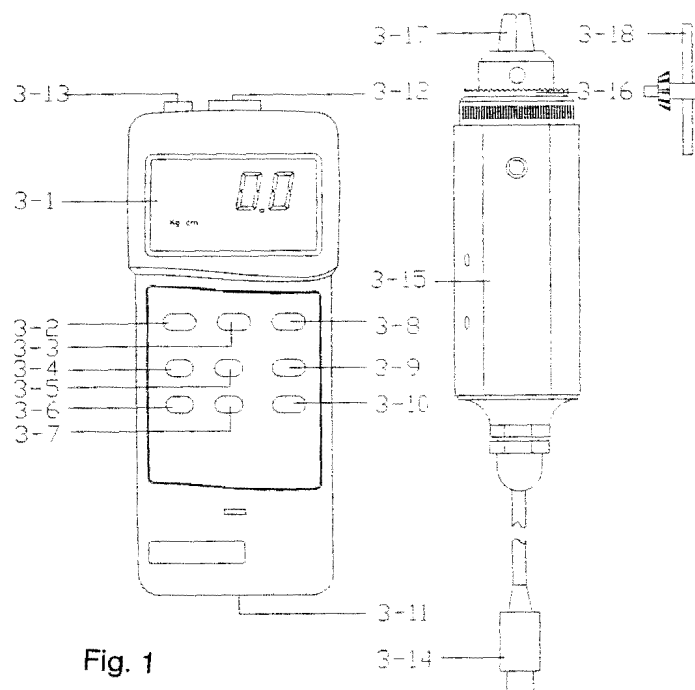

Fig. 1
- 1) Plug in the " Sensor Cable Plug " (3-14, Fig. 1) to meter's " Sensor Input Socket " (3-12, Fig. 1).
- 2) Power on the meter by push the " Power Button " (3-2, Fig. 1).
- 3) Push the " Sensor Type Button " (3-8, Fig 1) to check if the meter's sensor type is same as the external torque sensor.
Push the " Unit Button " (3-5, Fig. 1) to select the unit Kg-cm, LBf-inch or N-cm (Newton-cm).
Push the " Resolution Button " (3-7, Fig. 1) to select the High resolution or Low resolution.
The " Fast/Slow Button " (3-10, Fig. 1) is used to select the fast sampling time or slow sampling time.
7) To connect the "Cramp" (3-17, Fig. 1) to the measured installation and use the "Opinion" (3-18, Fig. 1) to lock the "Gear" (3-16, Fig. 1). Ref. Fig. 2 & Fig. 3.
Before the measurement, if the meter not show zero value, it can push the " Zero Button " (3-9, Fig. 1) to tare the display value, the LCD will change to zero value.
During the measurement, push the " Peak Button " (3-6, Fig. 1), the LCD will show the " PEAK " indicator & the display will hold the peak value.
During the measurement, pushing the " Hold Button " (3-3, Fig. 1) will freeze the measured value & display will indicate " HOLD " symbol. Push the " Hold Button " again to release the data hold function.
* The DATA RECORD function displays the maximum and minimum readings. To start the DATA RECORD function, press the " Max./Min. Button " (3-4, Fig. 1) once. " REC " symbol will appear on the LCD display.
(a) Push the " Max./Min. Button " (3-4, Fig. 1) once, the " Max " symbol along with the maximum value will appear on the display.
To disable this feature, Select the memory record function during measurement, by pressing the " Max./Min. " button (3-4, Fig. 1).
The instrument features an RS232 output via 3.5 mm Terminal (3-13, Fig. 1).